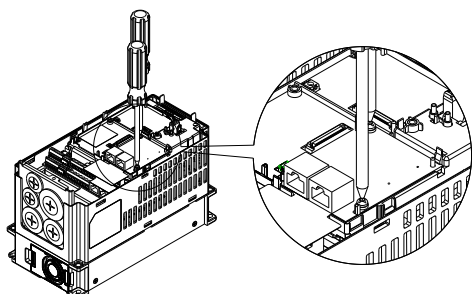

Figure 4
- Remove the two screws (see Figure 4).